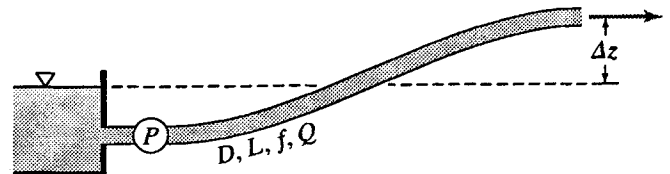

Figure X8.28.2
8.28.2 A 10-in-diameter pipeline ($f = 0.020$) is 3 miles long (Fig. X8.28.2). when pumping 4 cfs of water through it, with a total actual lift of 25 ft, how much power is required? The pump efficiency is 72 percent.